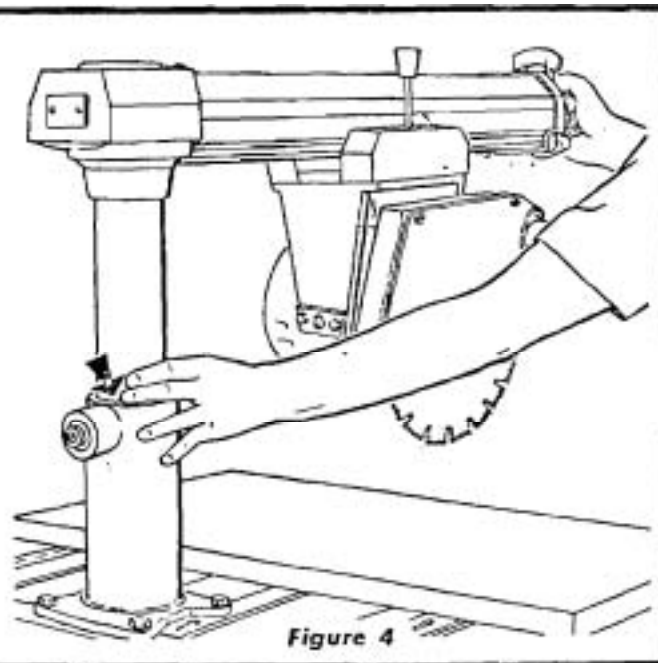

Figure 4
2. Grasp arm latch handle (22, figure 20) with one hand and hold fingers of other hand at parting line between column tube and column support. (See figure 4.) Apply gentle side force to the radial arm in opposing directions. Any looseness between column and column support (indicated by arrow in figure 4) can be felt with fingers.
3. If looseness can be felt, at point indicated by the arrow in figure 4, perform operations outlined in instructions that follow: